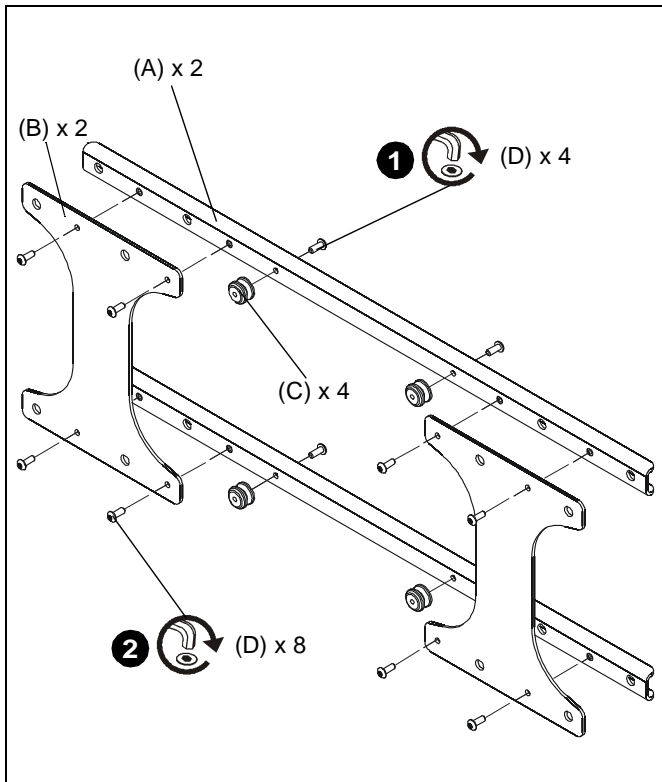

Figure 1
1. Attach four mounting buttons (C) to cross brackets (A) using four #10-24 x 1/2" button head cap screws (D). (See Figure 1)
2. Attach web support plates (B) to cross brackets (A) using eight #10-24 x 1/2" button head cap screws (D). (See Figure 1)